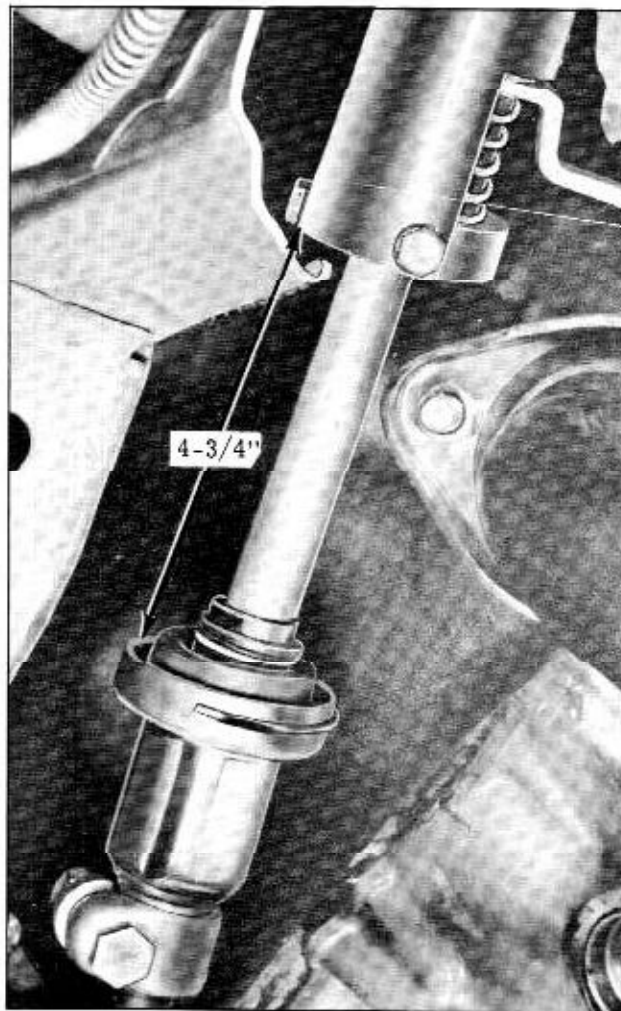

Fig. 4-16 Steering Column Position
3. On manual steering equipped cars, adjust column up or down to obtain $4\text{-}3/4"$ as shown in Fig. 4-16.